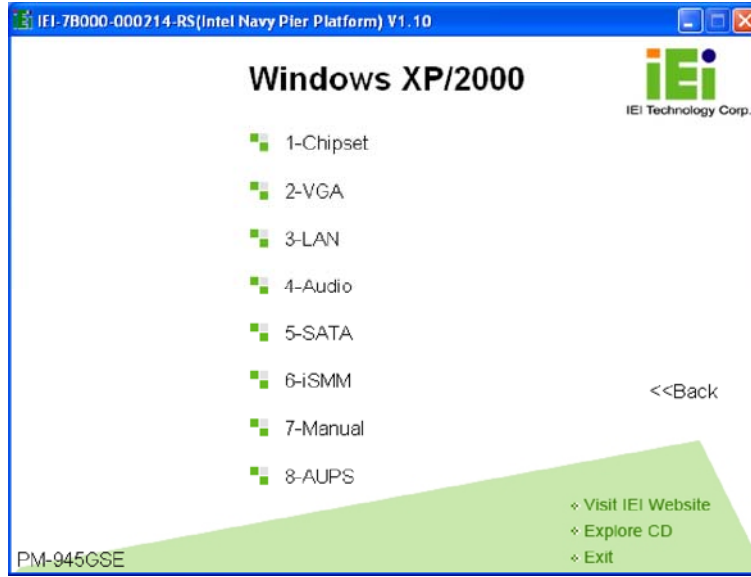

Figure 4-16: Available Drivers
Step 5: A new screen with a list of available drivers appears (**Figure 4-16**).